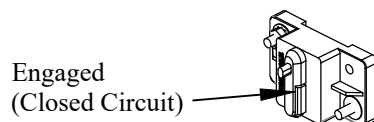

Figure 7: Engage circuit breaker.
2. **Connect** the power cable to the positive side of the battery or manually **Engage** the circuit breaker (Figure 7).